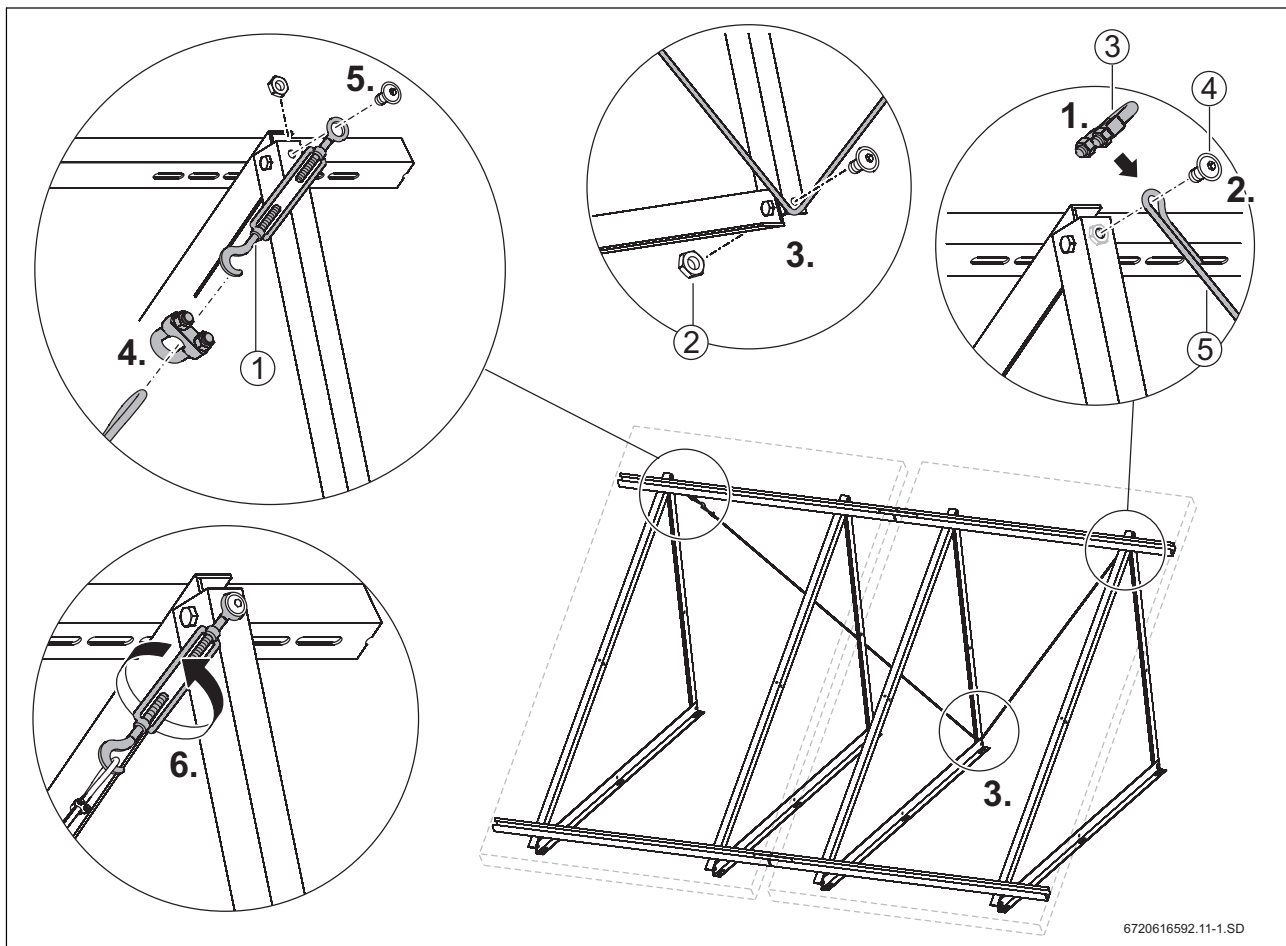

Fig. 26 Always attach the steel cable to two vertical collectors
- Ensure screw and nut (Fig. 26, Pos. 2) are sufficiently tight.